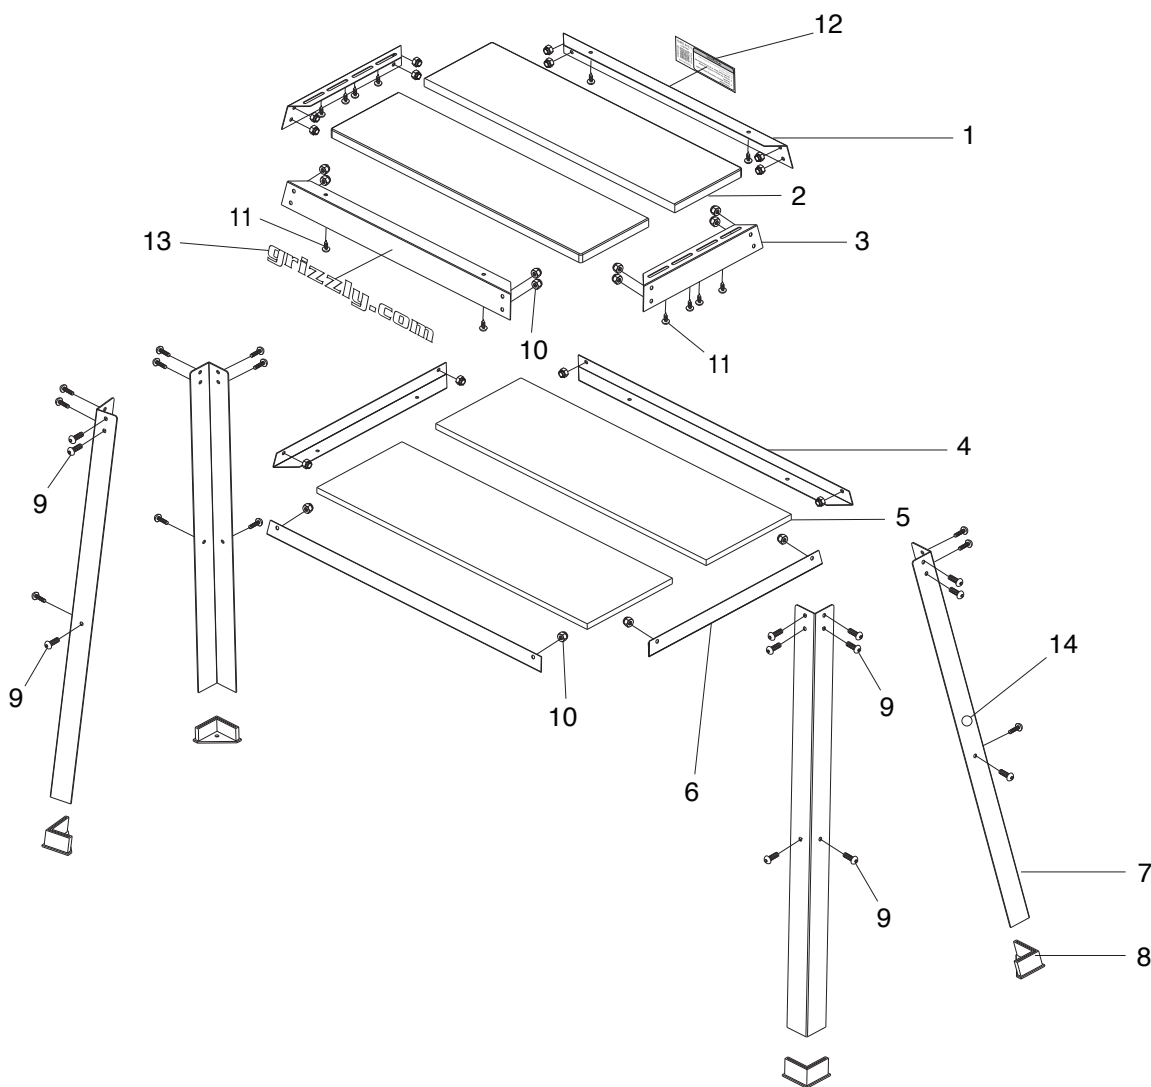

**Figure 9.** Shelf boards placed on lower braces.
9. Flip stand upright, and place (2) shelf boards on lower braces (see **Figure 9**).